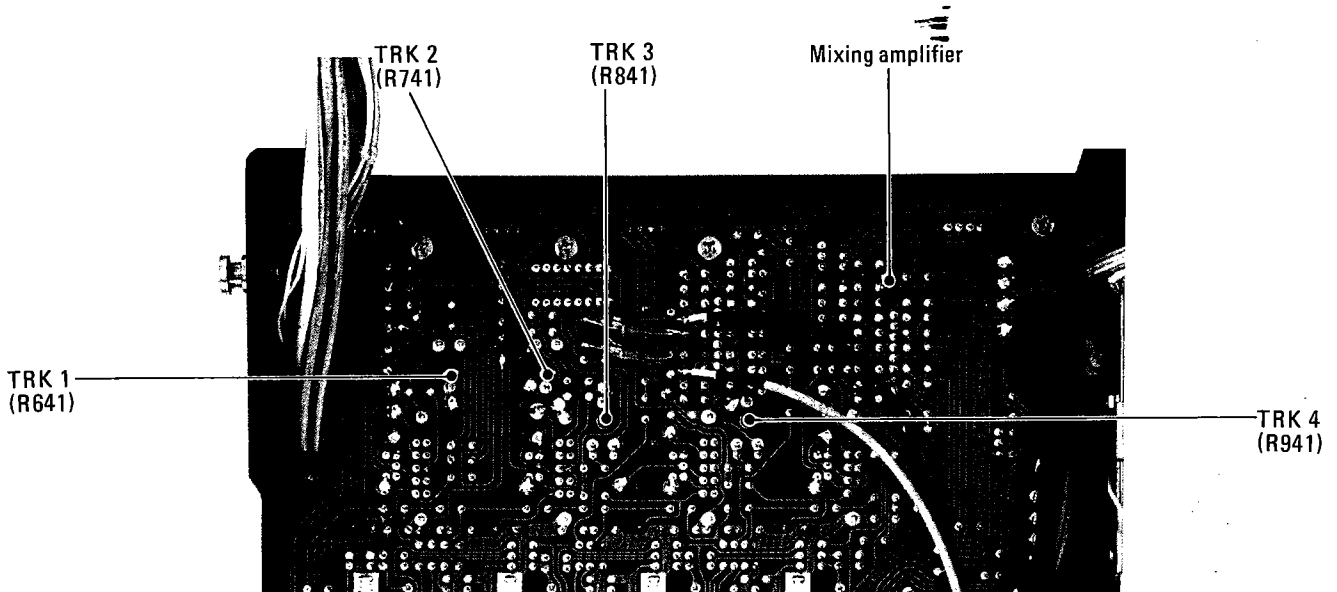

Fig. 9-1 VU meter level adjustment
Adjust following the trim pots (Fig. 9-1) so that each meter indicates "0VU" under the conditions with the TRIM knobs set as mentioned in the item 9-1. (Or test terminals TP9 - TP12 indicate  $-10$  dBV.)